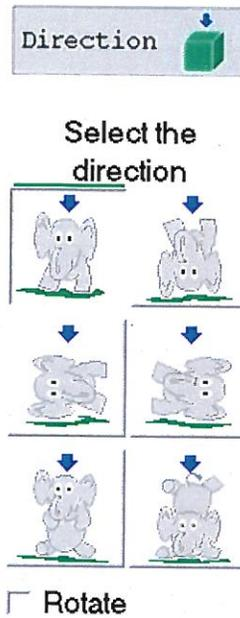

Figure 9: Image of the Settings Icon and the Direction Menu
- i. The **DIRECTION** setting should be set so that the arrow is pointed downward at the top of the object (Figure 9).